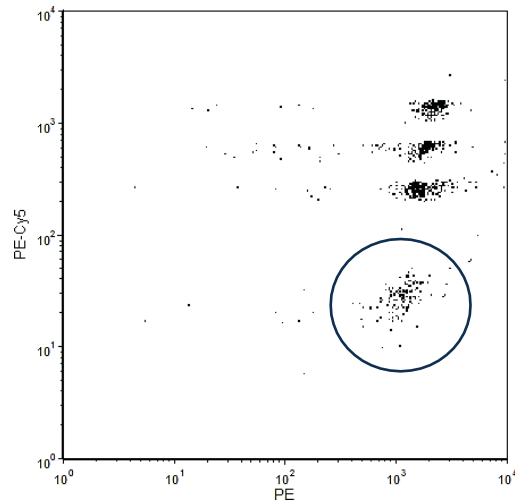

Figure 4
3) Apply proper "PE-Cy5" - %PE color compensation so that the bead populations are in a horizontal position (Figure 4: small blue circle is an example of proper color compensation setting).